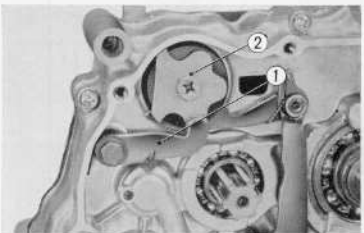

Fig. 3.79 Assembling shift drum stopper
2. Install the shift drum stopper ① and then assemble the driven gear. (Fig. 3.79)